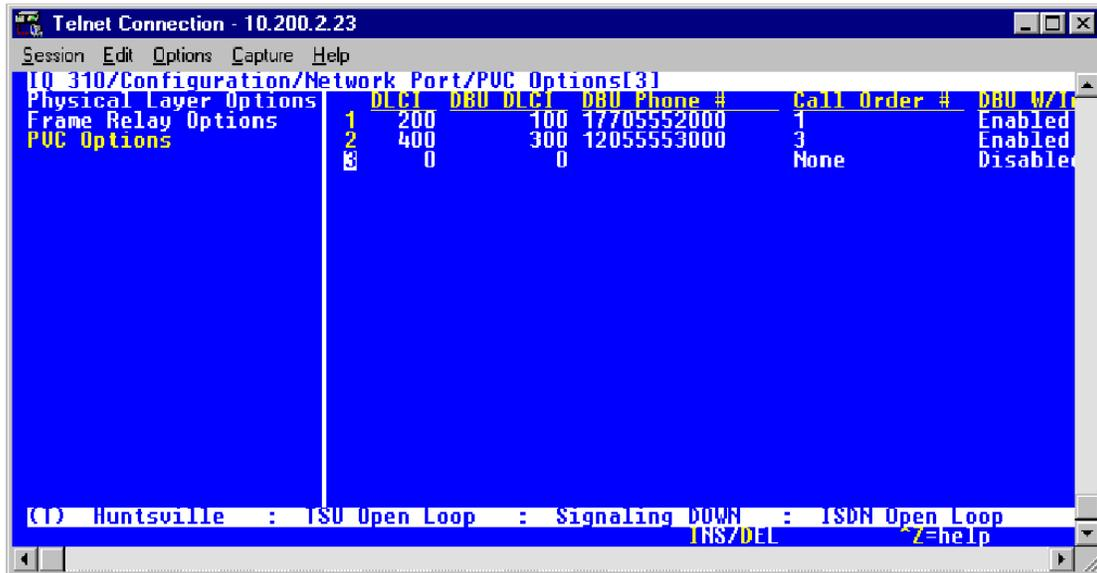

Figure 25. New Entry Screen
- Using the left arrow, place the cursor over the number 2 (indicating entry 2) to the left of the **DLCI** field; then press **** for insert. This should add an entry as shown in Figure 25.